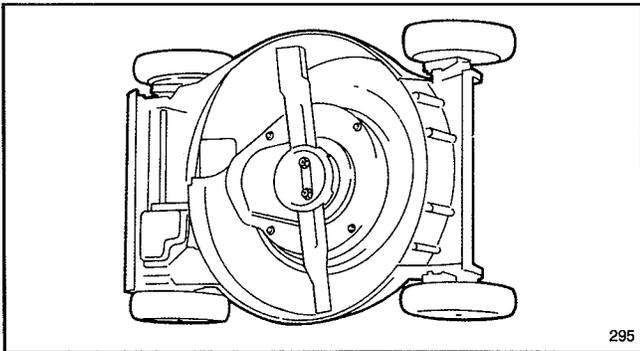

Figure 34
3. Tip mower on its left side (Fig. 34).